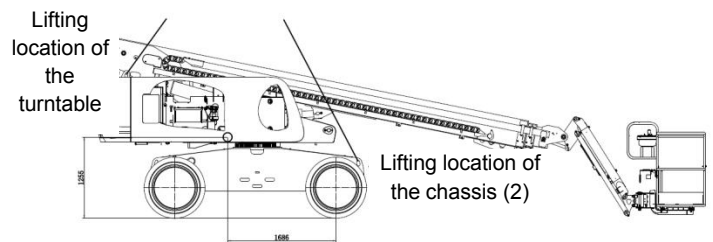

Figure 10-5 Schematic diagram of connection during machine lifting
- 4) Fix the turntable using the turntable rotary lock. Determine the center of gravity of the machine using data in Figure 10-5.